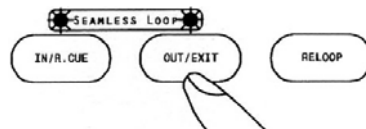

Fig. 10
- c. Press OUT/EXIT Button to set desired ending point of the SEAMLESS LOOP. You will know you are in SEAMLESS LOOP mode because IN/R.CUE and OUT/EXIT LED will light and flash. LOOP INDICATOR in LCD DISPLAY will also flash. Sound will continue with no interruption (SEAMLESS LOOP)(Fig. 10).